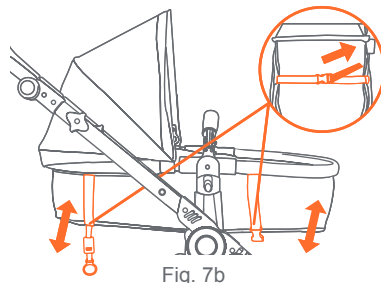

Fig. 7b
- **Upright and Reclined Position:** Buckle the footrest and headrest straps on the rear of the seat. Pull the excess straps to tighten the seat (Fig. 7b).
- **Carriage Position:** Make sure both footrest and headrest straps are loosened and extend the seat surround fully (Fig. 7b).